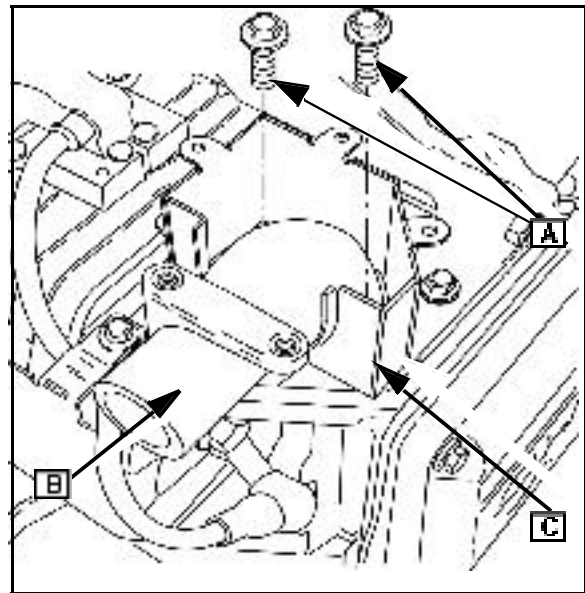

Fig. 24
7. Remove exhaust elbow mounting bolts ([A] Fig. 24).
8. Set exhaust manifold ([B] Fig. 24), manifold guard ([C] Fig. 24) aside.